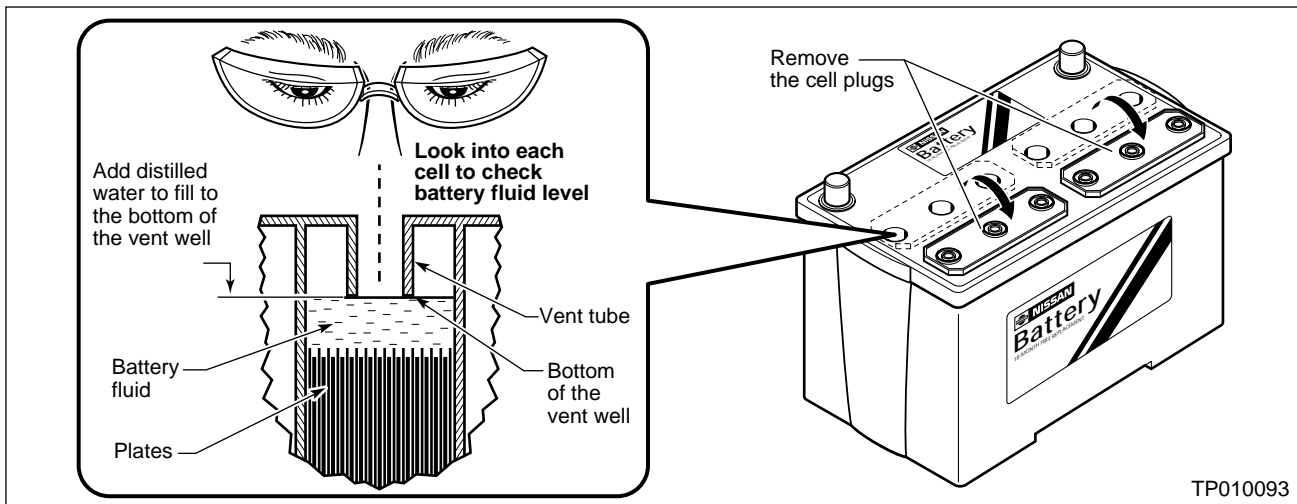

Figure 2
- 2) Look into each individual cell and verify that the electrolyte covers the lead plates in the battery and is no higher than the bottom of the vent well (see Figure 2).